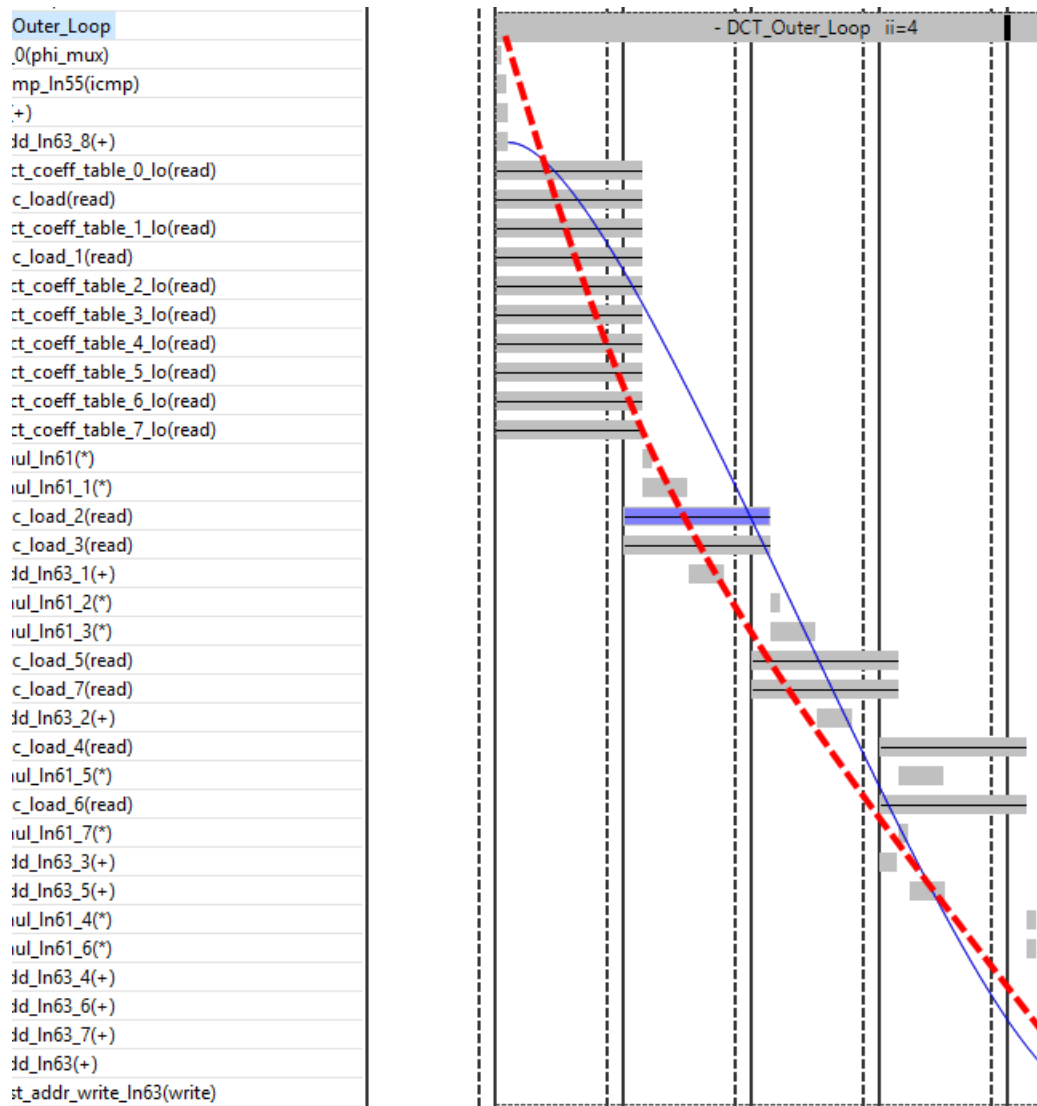

Figure 6-22: Analysis of dct_1d RD_Loop_Row
13. Expand the `DCT_Outer_Loop` to see the view shown in Figure 6-22.
Figure 6-22 shows a very different view from the earlier loop schedules (which had only a few cycles of latency). The schedule shows a long drift from input to output (as shown by the red arrow).
Figure 6-22 shows the analysis of `dct_1d RD_Loop_Row`.